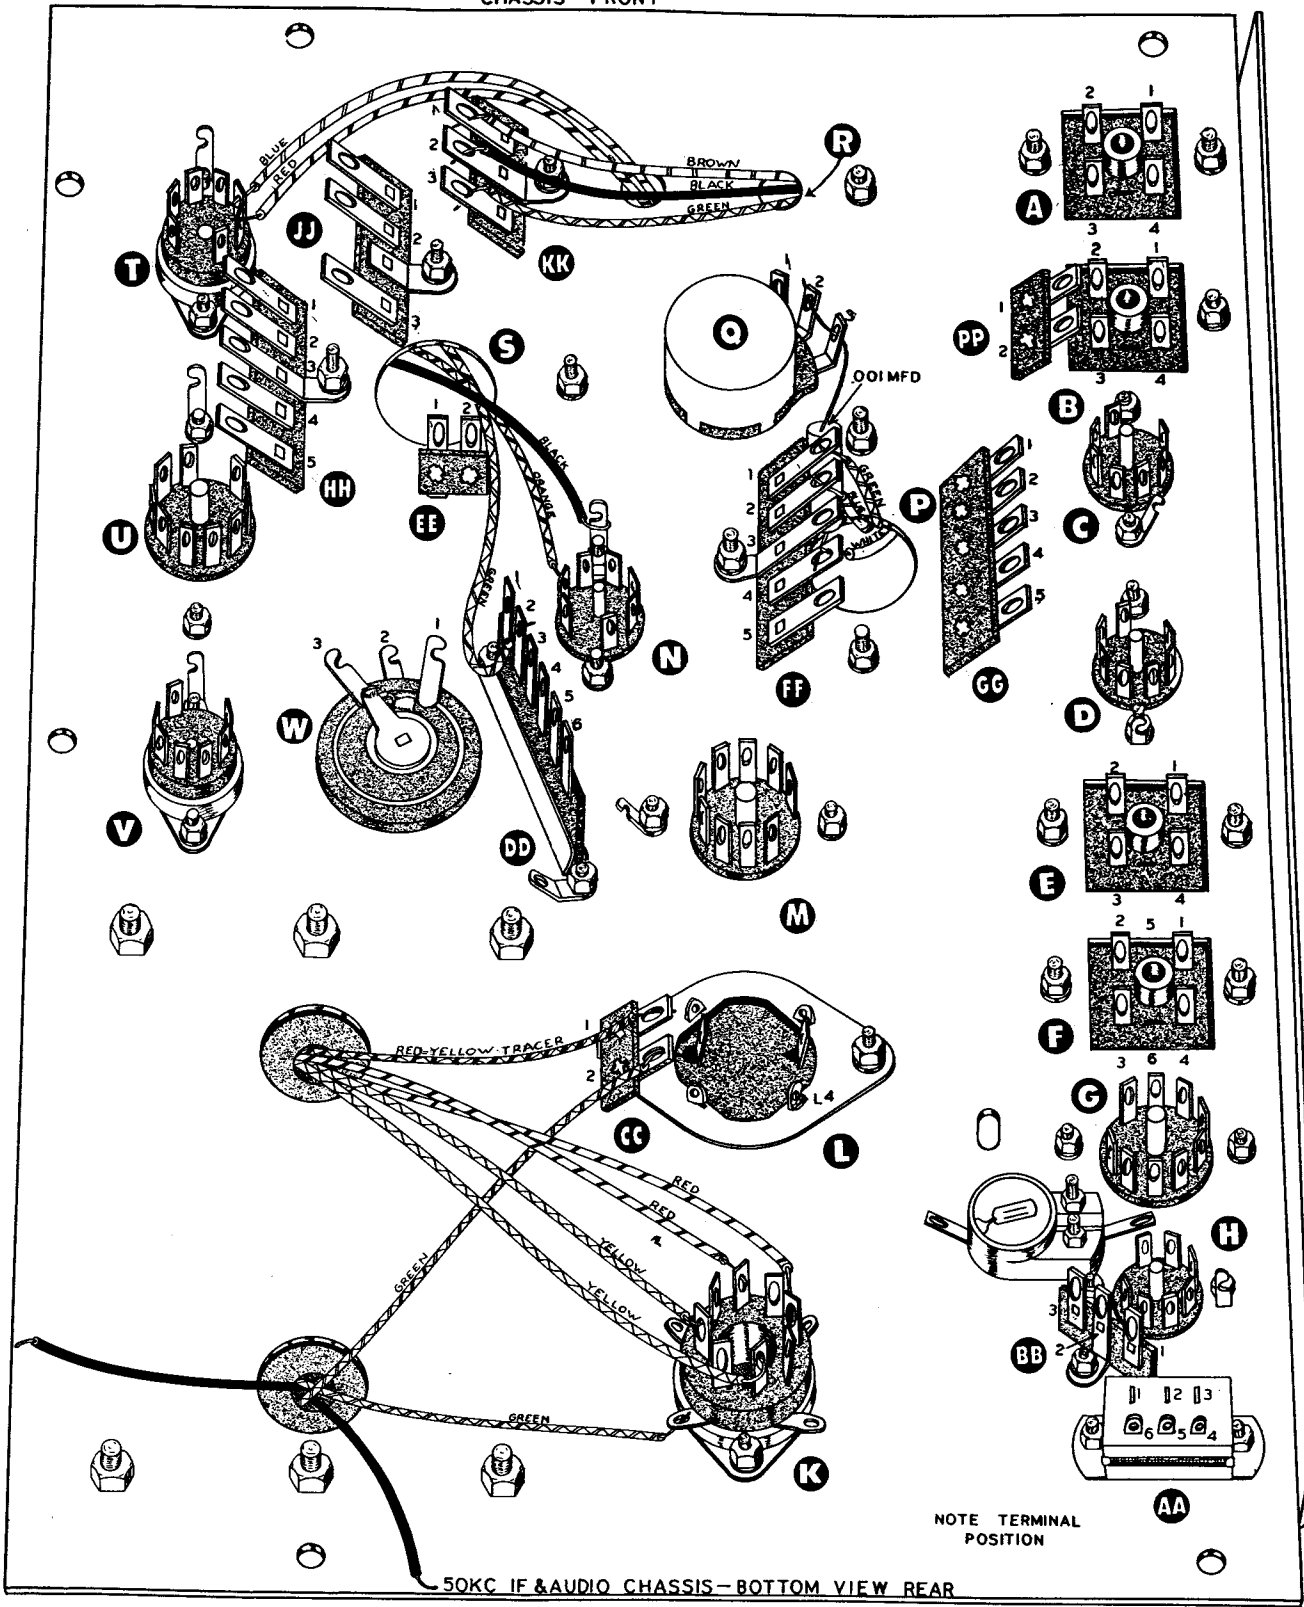

Figure 4
- (✓) By referring to Figure 4, locate the IF-Audio chassis and mount a 7 pin miniature shielded ceramic socket at hole C with the tube pins faced as shown, using 3-48 x 1/4" screws with a nut and lockwasher on the front mounting holes. On the rear mounting hole, mount a small solder lug with a lockwasher on each side of it. Position and bend lug as shown.
- (✓) Identify the 6 pin special socket by referring to Figure 4 (rear corner). Note that three terminals are at right angles to the others. Mount the socket at location AA, positioning the terminals as shown; use 3-48 screws, lockwashers and nuts.
- (✓) Mount a 3 lug terminal strip in the hole next to the ceramic trimmer capacitor as shown in Figure 4.
- (✓) Mount the capacitor wafer at hole L. Identify the metal wafer and a 2 lug terminal strip from Figure 4 and mount the two together as shown, using 6-32 hardware.
- (✓) There are four 50 KC IF transformers which are all electrically the same. Mount in holes A, B, E, and F, using 4-40 nuts and lockwashers. The transformers have numbers on the base which must be in the positions shown on Figure 4. Using the mounting stud of the 50 KC IF transformer "B", mount a 2 lug terminal strip as shown. Avoid resting the chassis on the IF transformer slugs.
- (✓) The filter capacitor consists of a 100 mfd and 40 mfd section. Note that the 100 mfd section is marked with a U shaped cut out and the 40 mfd section with a triangle. This capacitor is mounted by sliding the ears through the holes in the mounting wafer from the top of the chassis with the U shaped hole toward the power transformer. When the capacitor is correctly positioned, hold it tight against the chassis and secure by twisting the ears approximately 1/8 turn. Solder lug L4 to capacitor mounting wafer as shown in Figure 4.
shaft toward the front of the chassis (away from the power transformer). Two of the studs have 5 lug terminal strips on them. See Figure 4 page 20 for type and position of terminal strips. Assemble these last and place lockwashers on each side of the terminal strip mounting feet.
- (✓) Identify the BFO coil by the marking 40-121 on top. This unit is mounted in the same manner as the bridged T but at hole S. There are 2 lug, 3 lug, and 5 lug terminal strips mounted by means of the coil studs. See Figure 4 for type and mounting positions of the terminal strips. As before, center the stud in the slotted chassis holes and face tuning shaft toward the front of the chassis.
See Figure 4 for the following wiring.
- (✓) On the BFO coil S, connect the black lead to the ground lug at socket N (NS).
- (✓) Connect the orange lead to N2 (NS).
- (✓) Connect the green lead to DD2 (NS).
- (✓) See Figure 4 page 20 and place a .001 mfd paper capacitor where shown. Connect one lead to FF4 (NS); run the other lead through Q3 to Q2; solder Q3 and Q2.
- (✓) Connect the green wire from the Bridge T coil P to FF1 (NS).
- (✓) Connect the blue wire to FF2 (NS).